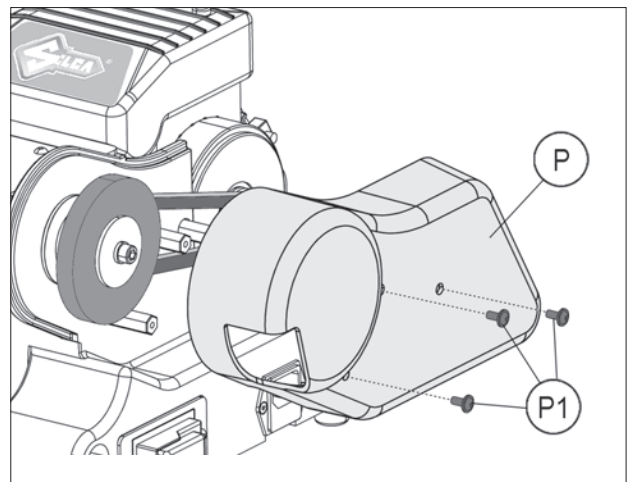

Fig. 61
- 6) Remove the screws (P1), then the protective cover (P) (Fig. 61).
- 3) Remove the cover (P) by loosening the screws (P1) (Fig. 61).
- 8) Place the motor cover (P).